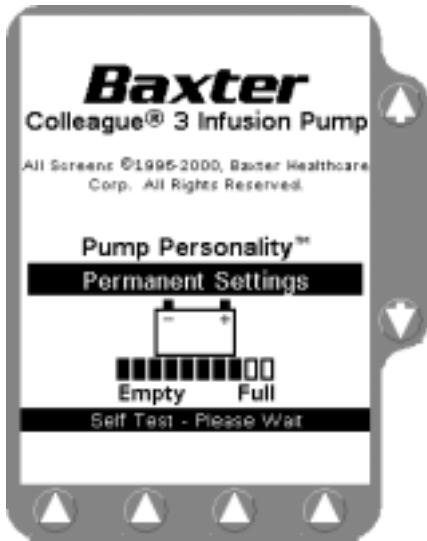

Figure 3-6 Power On Screen During Self-Test
2. When the main body display, pump module LED, and speaker tests are complete, the Power On screen (Figure 3-6) is displayed during the remaining self-diagnostic tests.